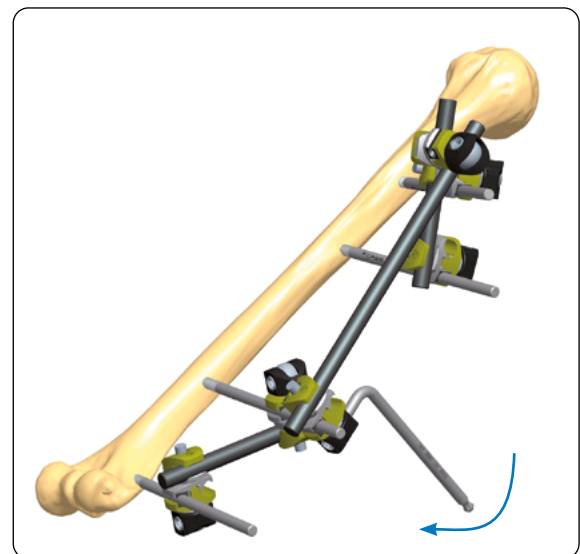

Fig. 9
9) A third rod is then used to join the first two rods together by 2 more clamps, which are not yet tightened. The surgeon now manipulates the fracture, if possible under X-ray control. When the position is satisfactory, the assistant locks all the clamps firmly by tightening the cams with the Universal T-Wrench or the 5mm Allen Wrench (**Fig. 9**).